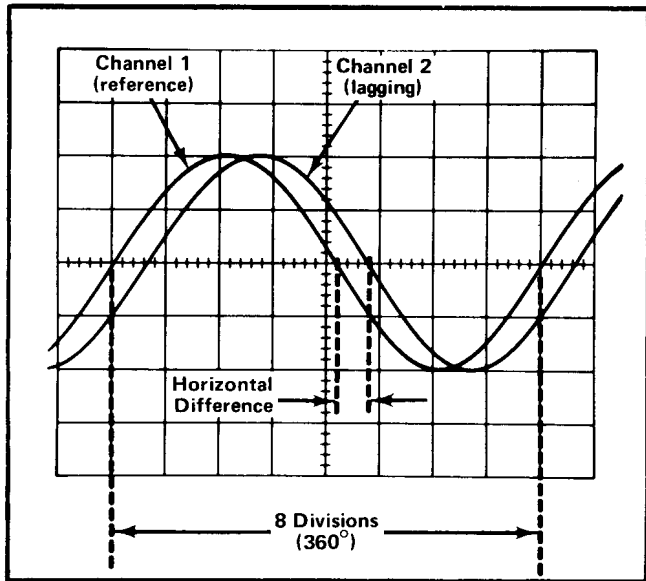
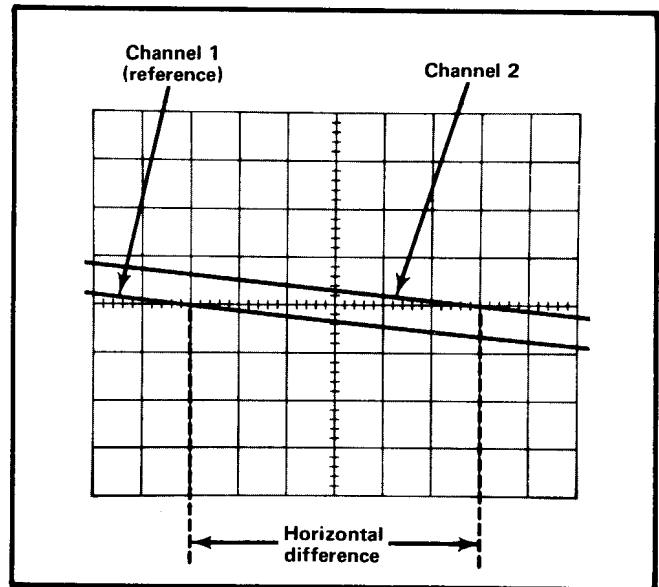

Fig. 2-12. Measuring phase difference.
Fig. 2-13. High resolution phase-difference measurement with increased sweep rate.
10. Turn the Variable TIME/DIV control until one cycle of the reference signal (Channel 1) occupies exactly eight divisions between the second and tenth vertical lines of the graticule (see Fig. 2-12). Each division of the graticule represents 45° of the cycle (360° ÷ 8 divisions = 45°/division). The sweep rate can be stated in terms of degrees as 45°/division.
EXAMPLE. Assume a horizontal difference of 0.6 division with a sweep rate of $45^\circ/\text{division}$ as shown in Fig. 2-12.
$45^\circ/\text{division} \div 10 = 4.5^\circ/\text{division}$. Fig. 2-13 shows the same signals as used in Fig. 2-12 but with the MAG switch set for 10X magnification. With a horizontal difference of six divisions, the phase difference is: